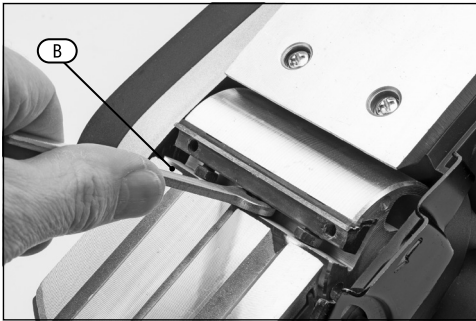
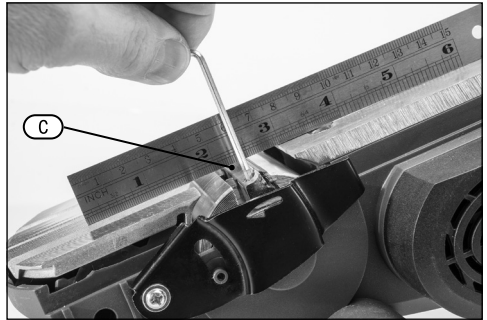

Fig. 6
Fig. 8
8.2 Blade replacement (Fig.6 – Fig.8)